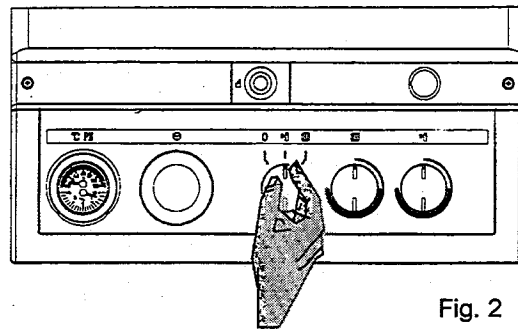

Fig. 2
1.1 With the boiler ON/OFF/Mode selector switch (5) turned to  (Fig. 2) the main burner will ignite electronically whenever water is drawn from the tap. (view through sight glass 1)